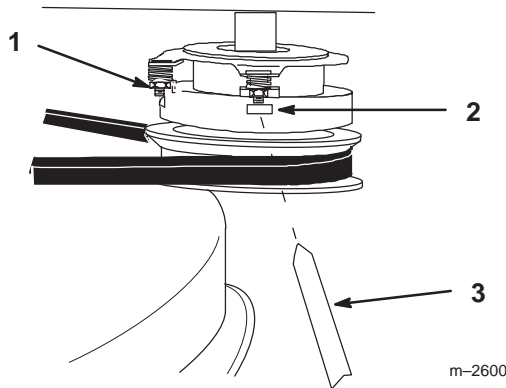

Figure 53
1. To adjust clutch, tighten or loosen lock nuts on flange studs (Fig. 53).
2. Check adjustment by inserting feeler gauge through slots next to studs (Fig. 53).